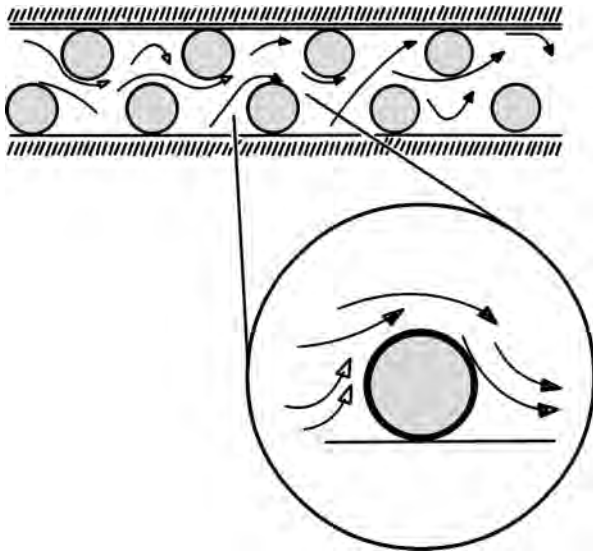

FIGURE 18.55 Flow disruption around spacer netting to promote turbulence.
- Membrane spacers are also widely used to promote turbulence by disrupting fluid flow in the module channels, as shown in Figure 18.55.